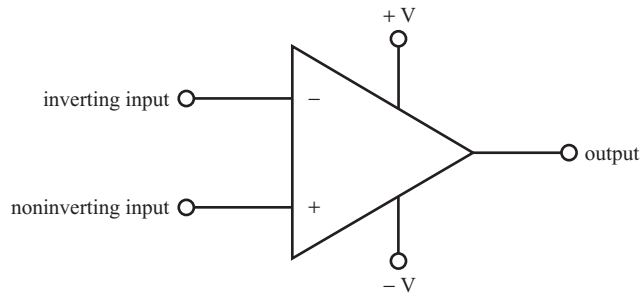

FIGURE 8.34
**44** Figure 8.34 shows the schematic symbol for an op-amp.